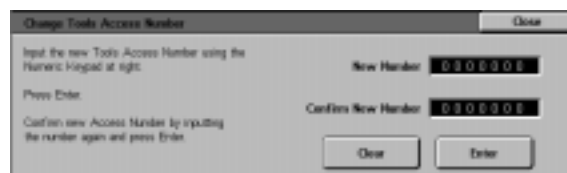

Figure 58: Change Tools Access Number screen
- 1 On the Tools screen, touch the **Change Tools Access Number** icon to display the Change Tools Access Number screen, as illustrated in Figure 58.